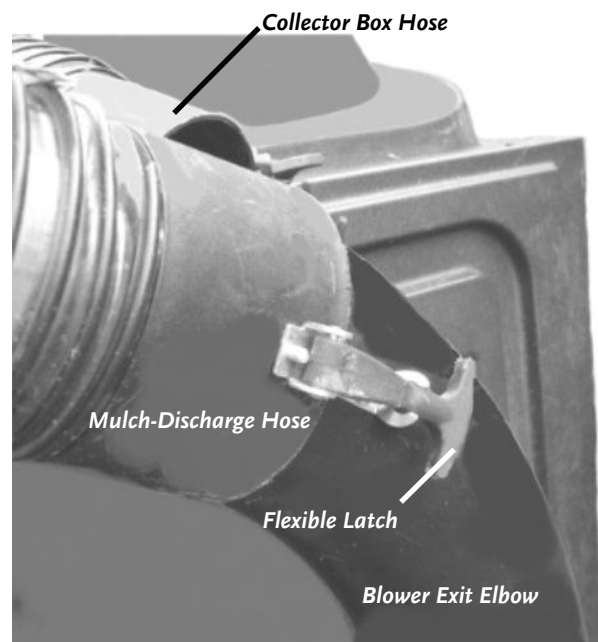

Figure 11
2. Push the Collector Box Inlet Hose behind the Blower Exit Elbow (**Figure 11**), connect the Mulch – Discharge Hose to the Blower Exit Elbow, and secure in place with the two (2) Flexible Latches (**Figure 11**).